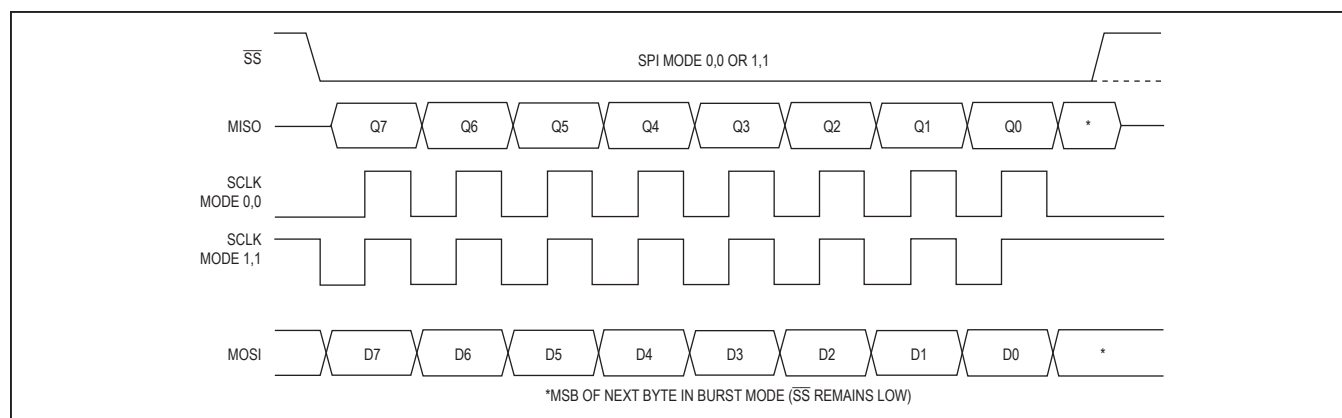

Figure 14. SPI Clocking Modes
The SPI master provides the MAX3420E SCLK signal to clock the SPI interface. SCLK has no low-frequency limit, and can be as high as 26MHz. The MAX3420E changes its output data (MISO) on the falling edge of SCLK and samples input data (MOSI) on the rising edge of SCLK. The MAX3420E ignores SCLK transitions when \overline{SS} is high. The inactive level of SCLK may be low or high, depending on the SPI operating mode (Figure 14).
The MAX3420E SPI interface operates without adjustment in either SPI mode (CPOL = 0, CPHA = 0) or (CPOL = 1, CPHA = 1). No mode bit is required to select between the two modes since the interface uses the rising edge of the clock in both modes. The two clocking modes are illustrated in Figure 14. Note that the inactive SCLK value is different for the two modes. Figure 14 illustrates the full-duplex mode, where data is simultaneously clocked into and out of the MAX3420E.
- (1) When \overline{SS} is high, the MAX3420E is unselected and three-states the MISO output.
- (2) After driving SCLK to its inactive state, the SPI master selects the MAX3420E by driving \overline{SS} low. The MAX3420E turns on its MISO output buffer and places the first data bit (Q7) on the MISO output (Figure 14).
- (3) The SPI master simultaneously clocks the command byte into the MAX3420E MOSI pin, and USB status bits out of the MAX3420E MISO pin on the rising edges of the SCLK it supplies. The MAX3420E changes its MISO output data on the falling edges of SCLK.
- (4) After eight clock cycles, the master can drive \overline{SS} high to deselect the MAX3420E, causing it to three-state its MISO output. The falling edge of the clock puts the MSB of the next data byte in the sequence on the MISO output (Figure 14).
- (5) By keeping \overline{SS} low, the master clocks register data bytes out of the MAX3420E by continuing to supply SCLK pulses (burst mode). The master terminates the transfer by driving \overline{SS} high. The master must ensure that SCLK is in its inactive state at the beginning of the next access (when it drives \overline{SS} low). In full-duplex mode, the MAX3420E ignores data on MOSI while clocking data out on MISO.